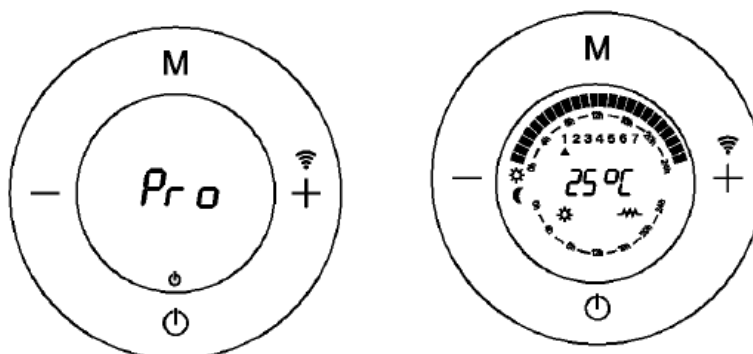

Fig.28
3. If you want to exit at any time to set the current day of the week and time, press . Keep in mind that the transmitter will work with the last programming carried out on each day. That is, if you exit the schedule after ending Wednesday (3), the device will work with the schedule you just did between Monday (1) and Wednesday (3) but from Thursday (4) to Sunday (7) it will work with the last programming that has been done in those days.
**Now we are ready** to use the programming mode. **To activate it**, all we have to do is switch on the appliance by pressing the button  and search for the programming mode with the button **M** until the next display appears fluctuating between these two. **(Fig.28)** This means that the programming mode has been activated and is now working. (This is the only way to set the programming mode).